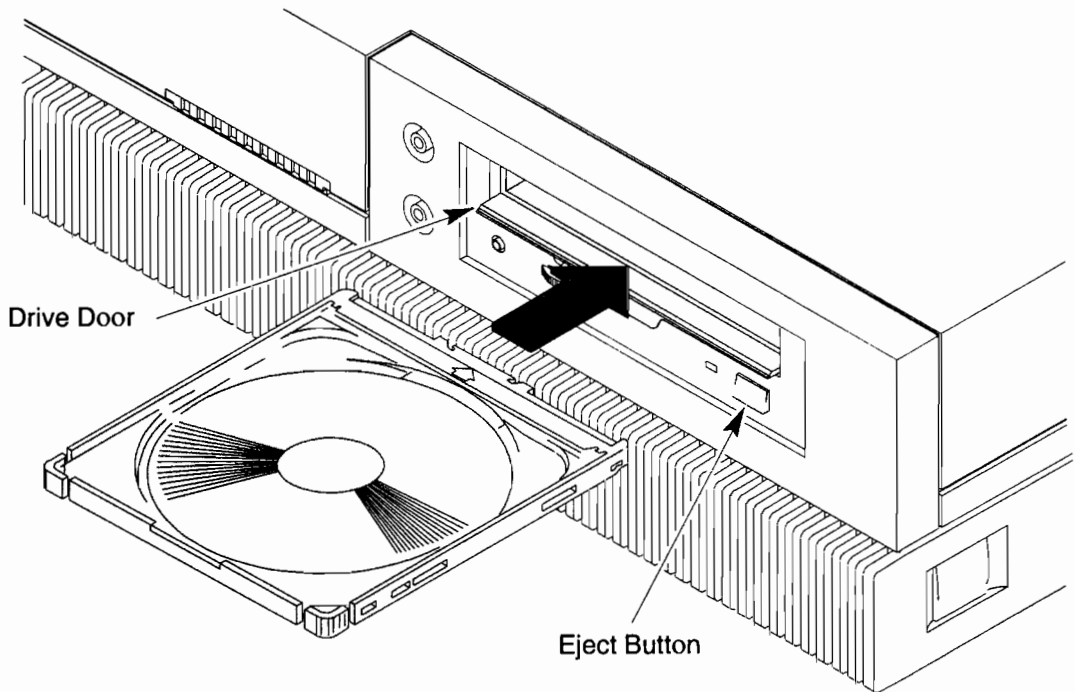

Figure 6-2. Loading a CD-ROM Disc Caddy
1. Manually open the door on the front before loading a CD-ROM disc caddy and always keep the door closed when not loading or unloading a disc caddy. (See Figure 6-2.)
2. Hold the disc caddy with the cover facing up and the arrow on the top of the caddy pointing toward the CD-ROM drive, as shown in Figure 6-2.
1. Press the eject button on the CD-ROM drive. (See Figure 6-2.)
2. Press the eject button on the CD-ROM drive. (See Figure 6-2.)